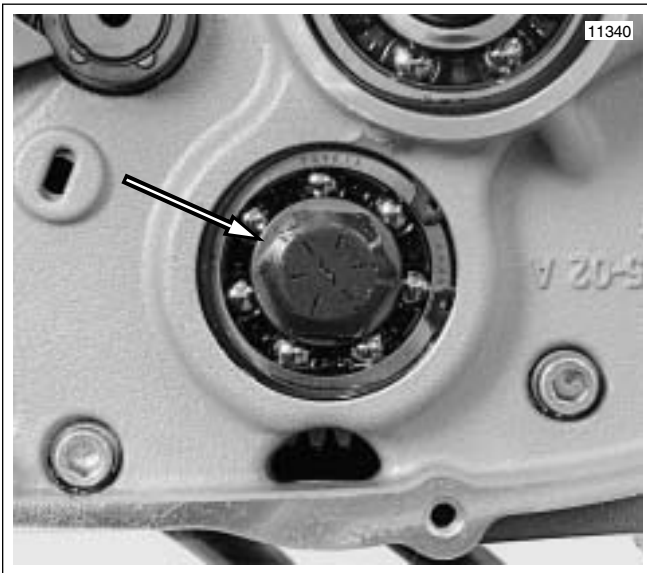

Figure 6-46. Hex Fastener Countershaft Retainer
8. See Figure 6-46. Place transmission in 1st gear. Remove hex fastener.